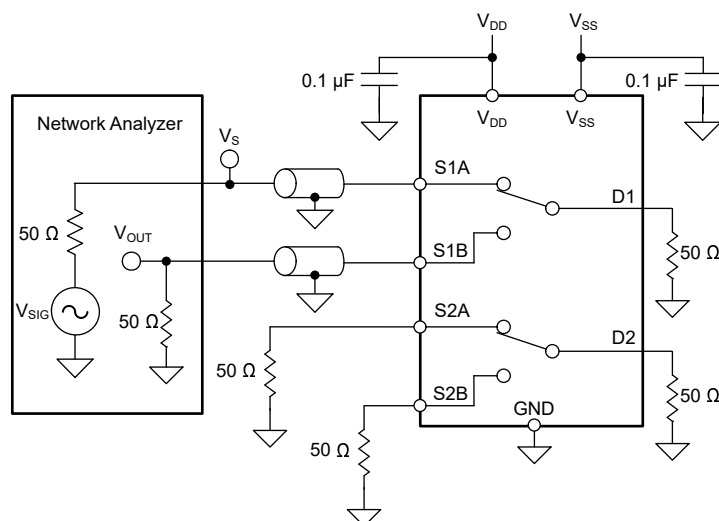

Figure 7-15. Intra-Channel Crosstalk Measurement Setup
1. Intra-channel crosstalk ($X_{\text{TALK(INTRA)}}$): the voltage at the source pin (S_x) of an off-switch input, when a 1-V_{RMS} signal is applied at the source pin of an on-switch input in the same channel, as shown in Figure 7-15.